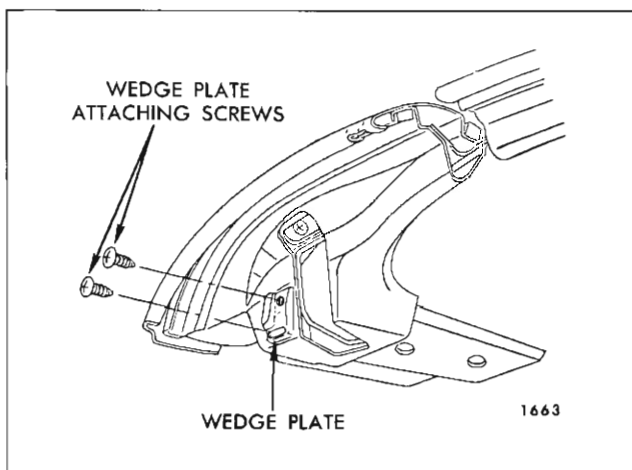

Fig. 2-I-54 — Wedge Plate Installation
2. Loosen wedge plate inboard attaching screw. (Fig. 2I54).